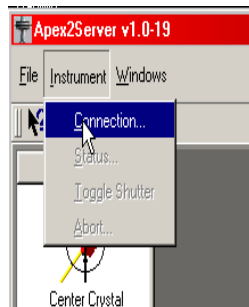

Figure 4.4 - Connecting to the instrument
2. In the top left corner, click on the pull-down menu Instrument (see Figure 4.4).